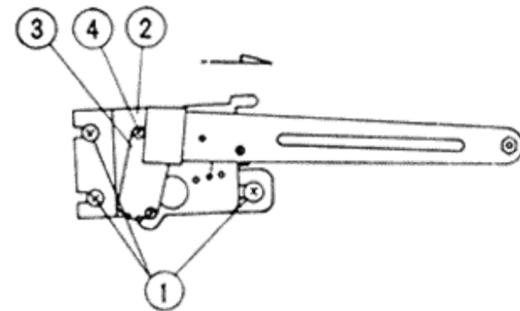

Fig. 8
5. Replacing the auto shut-off arm mechanism (Fig. 8)